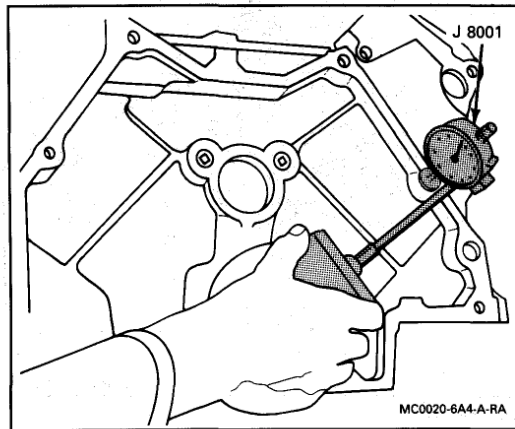

Figure 28 Measuring Transaxle Mounting Surface
2. Place dial indicator stem on the transaxle mounting bolt hole boss (Figure 28) and set indicator to 0.